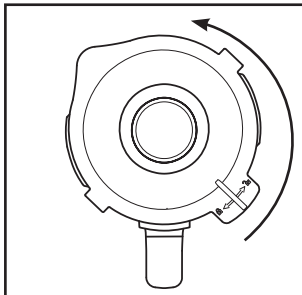

Fig. 1
- 2) Remove the lid **2** by rotating it anticlockwise towards position  (see Fig. 1) until you can pull it upwards.
- 1) Remove the blender ③ from the motor unit ⑥. For better stability, remove the lid ② by turning it anticlockwise towards position  (see Fig 1) until you can pull it off upwards.